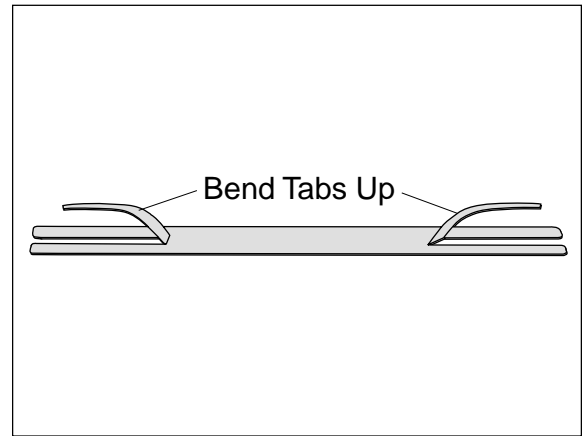

Figure 6
1. Bend tabs to provide a $\frac{1}{2}$ " dead air space between exhaust pipe and heat shield (Figure 6).